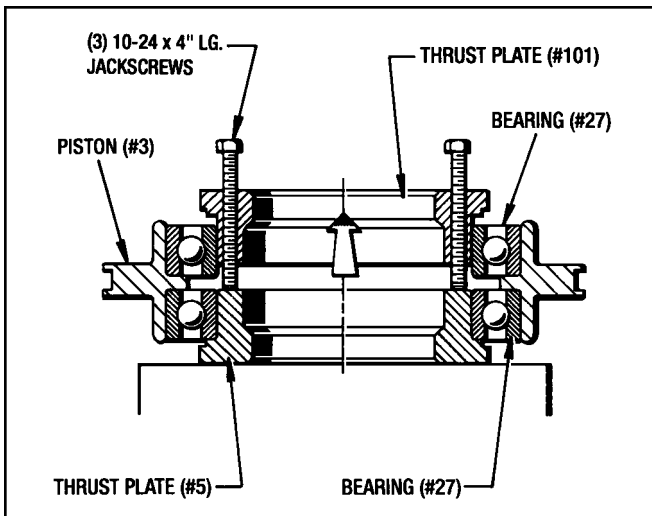

Figure 7.4 - Removing Thrust Plate (#101) From Piston
7. Using the jackscrew holes located in the Thrust Plate (#101), thread (3) 10-24 UNC x 4" lg. Screws into the Thrust Plate and force it out of the Bearing (#27). (See Figure 7.4)